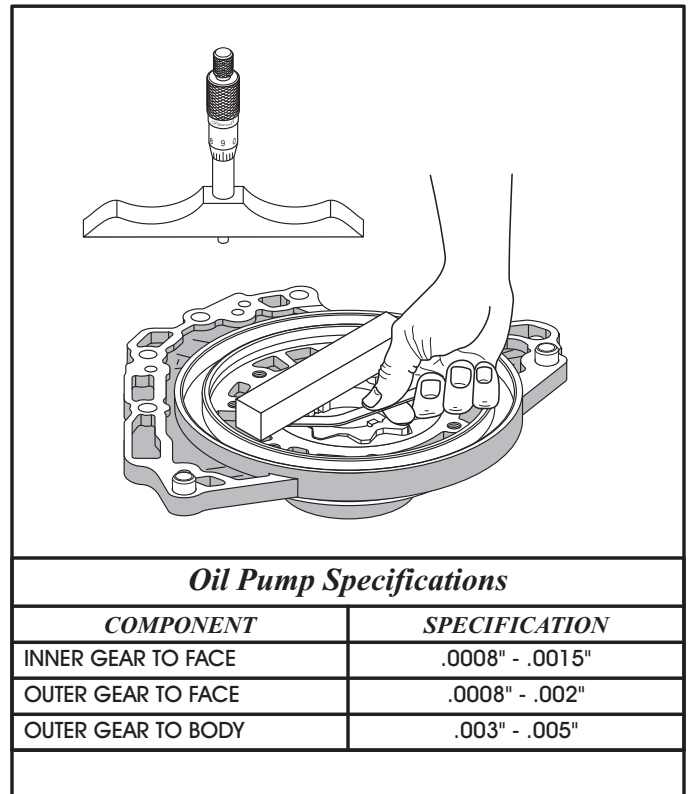

Figure 100
13. Measure the gear to face clearance on both the inner and outer gears using a feeler gage or a depth micrometer, as shown in Figure 100.
- Note: Oil Pump Specifications are also shown in Figure 100.**